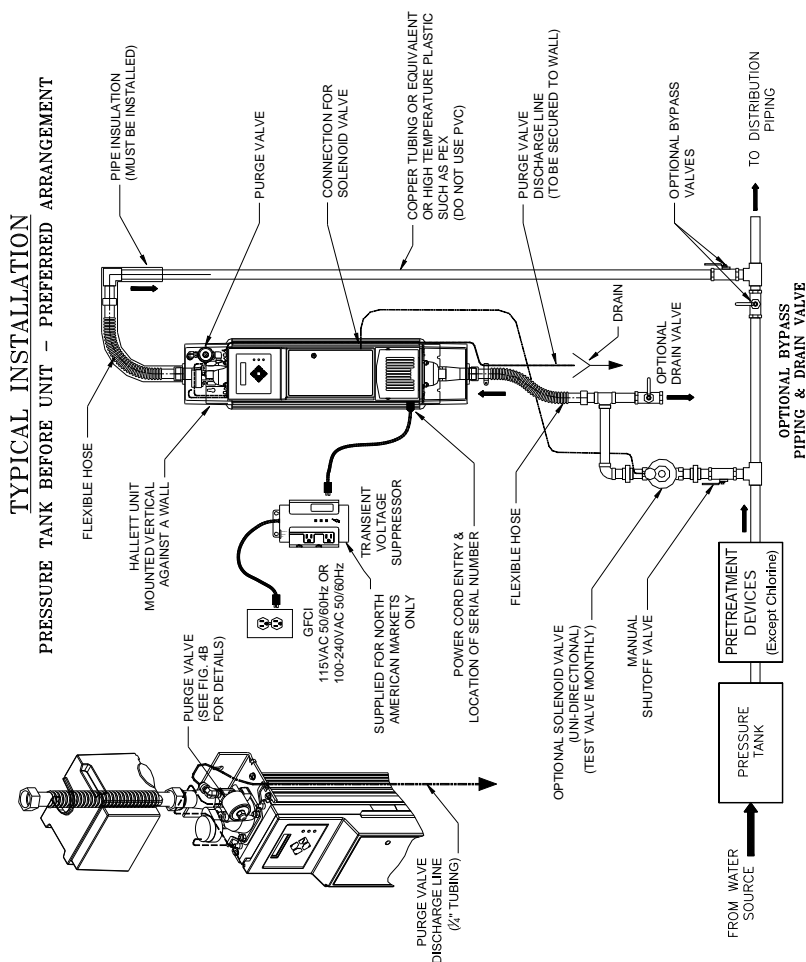

Figure 1B
There are two standard operating voltages for the Hallett 15xs unit. The unit may be 115Vac or 100-240 Vac and draws 175W. Please refer to the power input label located near the power cord entry of the unit. See Figure 1B. Record the operating voltage and serial on the front cover of the manual.
The Hallett requires four #12 to 1/4" diameter fasteners (not provided) to mount to a wall. It also requires male NPT fittings for the hose connections and also for the optional solenoid valve (1"). The Hallett unit requires a drain for purge valve discharge line. These fittings, pipe insulation, and any piping compatible with the plumbing should be on hand before you begin installation. See Figure 1B and make a list of all necessary components including solder, paste and thread sealant. Bypass piping and valves that isolate the unit are optional, (but recommended) as is a drain valve for draining the unit.
**Step 2:** If you have decided to install an optional bypass line and drain, you may begin to install these fittings at this point. See Figure 1B or 1C for more information on how to connect optional bypass piping and drain.
**Step 2:** Plug the female end of the power cord into the power entry module located on the left side of the front panel. The power cord must be removed before front panel can be opened. See Figure 1B or 1C. Plug the male end of the power cord into the Transient Voltage Surge Suppressor. Plug the Transient Voltage Surge Suppressor into a GFCI. Flip the switch on the Transient Voltage Surge Suppressor to ON position.